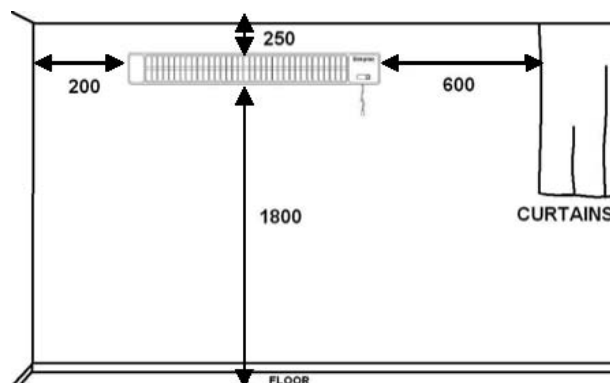

Fig.1
See also Fig.1 below
2. Before positioning the heater, firstly observe the clearances shown on page 1 (Fig.1)